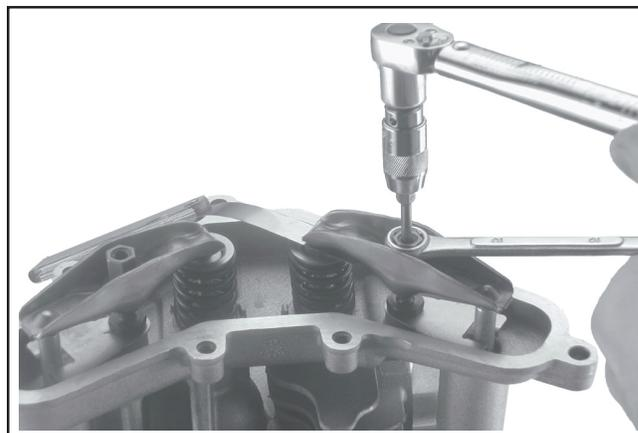

**Figure 10-38. Installing Push Rods and Rocker Arm Assemblies.**
3. Note the mark or tag identifying the push rod as either intake or exhaust. Apply grease to the ends of the push rods. Insert the push rods into the push rod bores and seat the lower end into the dimpled recess of the cam levers. It may be necessary to lift or shift the lower end of the push rod slightly, and “feel” that the rod seats into the recess. Once seated, hold it in place as you position the rocker arm. The push rod must stay in the recess while the rocker arms are positioned and adjusted. See Figure 10-38.